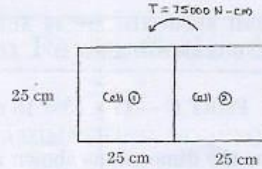

Fig. 13(a)
13. (a) A two-cell structure shown in Fig. 13(a) has 2mm of uniform thickness. Take  $E = 90 \text{ GPa}$  and Poisson's ratio as 0.3. Find the angle of twist per unit length.